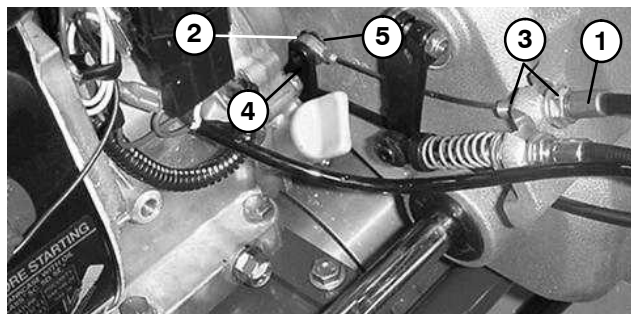

Figure 5
3. Remove parking brake cable from the gearbox as follows (Fig. 5):
3. Route brake cable to the gearbox assembly. Install brake cable to the gearbox and gearbox brake lever as follows (Fig. 5):